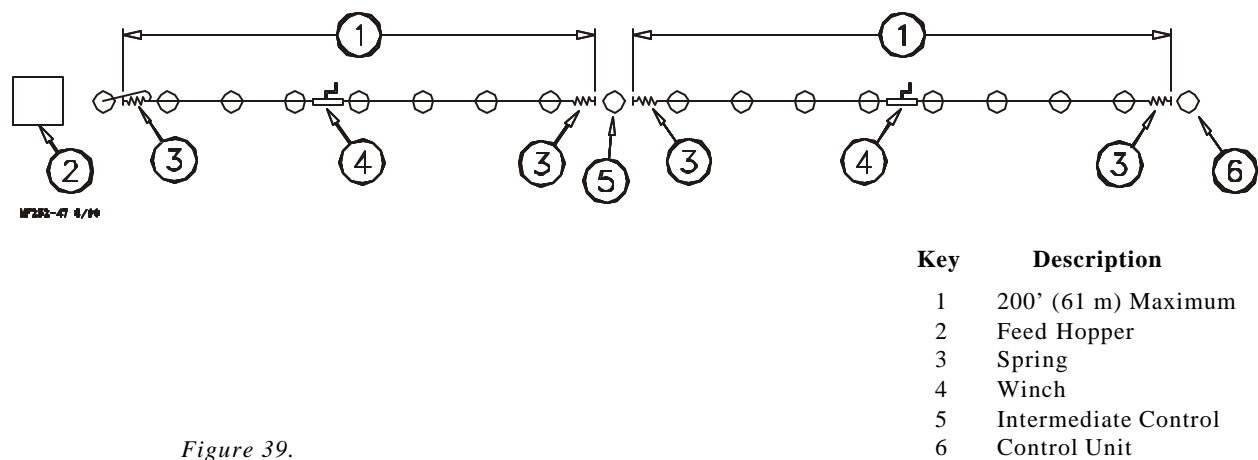
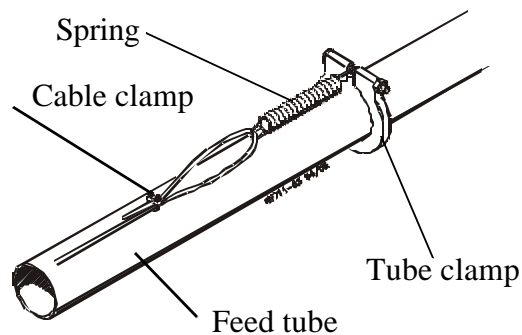

Figure 39.
Figure 41.
The Feed Level Tubes are adjusted using a winch and cable. The maximum line length for each winch is 200' (61 m). The winch should be located in the middle of the line of feeders that it is to adjust. See Figure 39.
The winch should be placed in the center of the line of Feed Level Tubes it will adjust, as shown in Figure 39. THE LINE LENGTH MUST NOT EXCEED 200 FEET (61 M).
2. Anchor spring to clamp on each side of the winch. See Figure 41. Attach the Tube Clamp/Spring assemblies to the feeder line tube at a maximum distance of 100 feet (30 m) from the winch. See Figure 39.